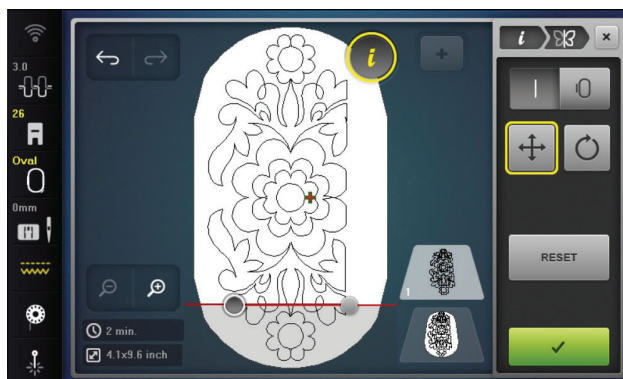

Fig. 38
9. Move the design created in Part 1 to the right edge of the hoop (Fig. 38).